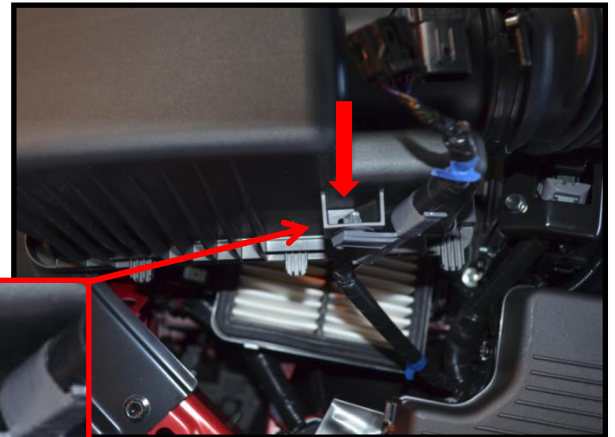

Figure 1f
- f) **Disconnect the MAF wiring and pull up on air box lid and remove it from the car** (Figure 1f). You will need needle nose pliers to compress the sides of the wiring harness tie down.